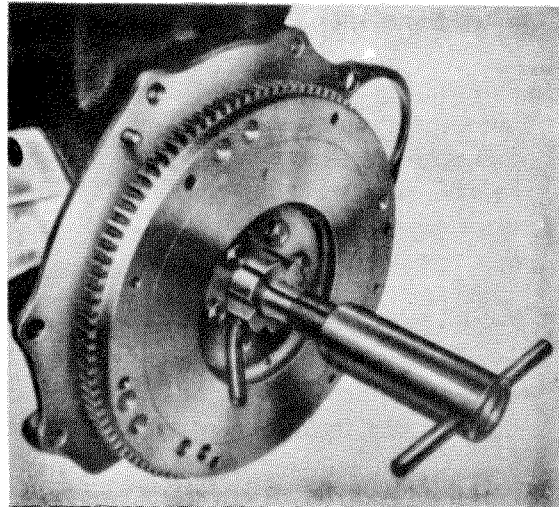

Fig. 01—4/52
2. Check the annular grooved bearing assembly on crankshaft. If on examination the annular grooved bearing assembly is found to be defective, the bearing cover and the bearing itself should be pulled off with Puller 136 589 07 33 (Fig. 01—4/52).